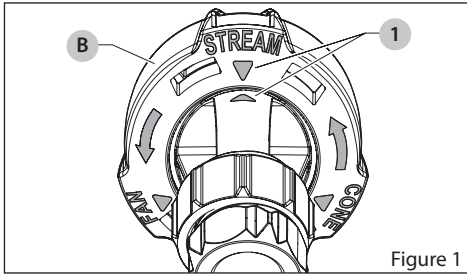

Figure 1
1. Rotate 3-in-1 nozzle (B) to desired nozzle position.
2. Nozzle end will fall into place as arrow indicators (1) become aligned. See Figure 1.